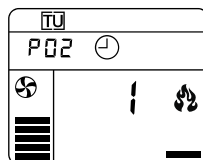

Fig. 5.2
Use the **9** and **12** keys to select the weekly programme P01-P10, P99. Press **OK** (10) to select the programme and exit, unless programme P99 is selected (see below). On **fig. 5.2** programme P02 is selected (see **Appendix 1**) which in the days from Monday to Friday will turn on the stove at 6 a.m. and turn it off at 10 a.m. Then it will turn it on again at 5 p.m. and will turn it off at 11 p.m. On Saturdays and Sundays the stove will be turned on at 7 a.m. and will be turned off at midnight.